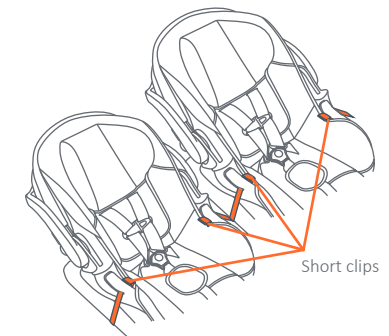

Fig. 17c
- Strap both short clips over the infant car seat, through both seat belt slots (Fig. 17c).